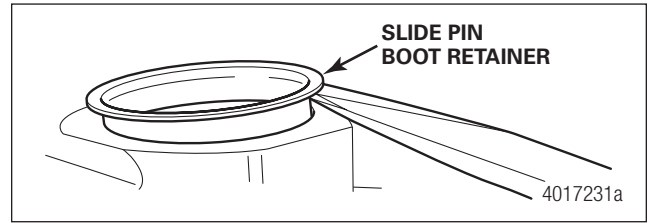

Figure 8.8 Slide Pin Retainer
1. Remove the slide pin boot retainer from the bushing bore. Figure 8.8.